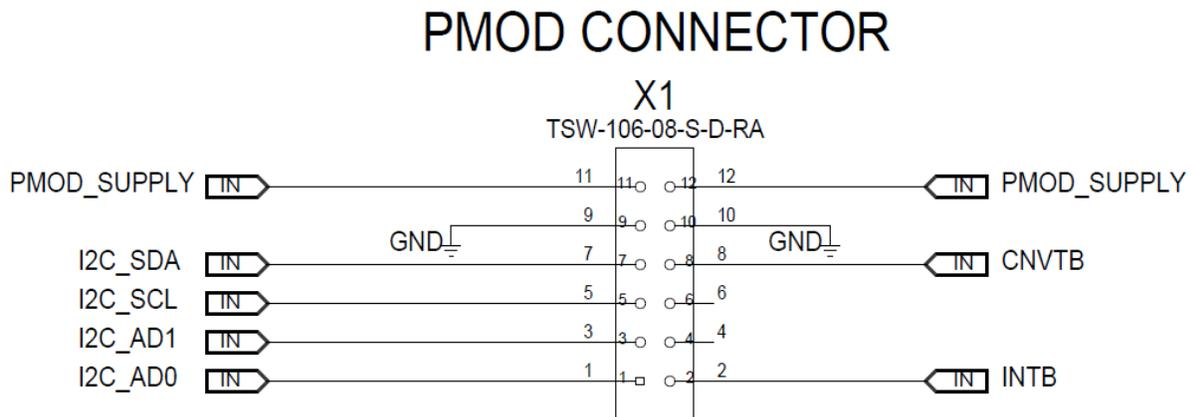

Figure 3. I2C connector inputs found on the MAX11312PMB#.
**Figure 3** shows the pin configuration for the I2C-compatible connector at the MAX11312PMB# board. The MAX11312PMB# board itself generates positive voltages from 3.3V on pins 11 and 12 with an on-board DC-DC converter. The 3.3V supply is limited to ~1.5W, limiting power available for the MAX11312PMB# if a higher watt power supply is required and external power supply is used. Refer to the MAX11312PMB data sheet for details.